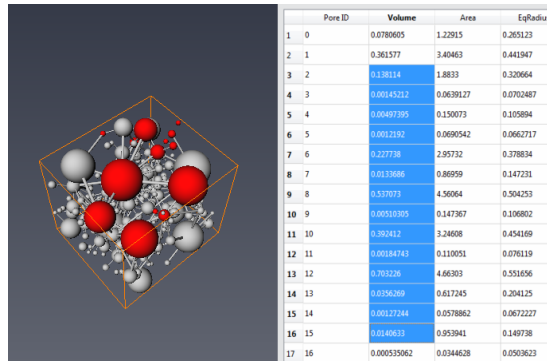

Figure 17.17: Highlighted Pores
4. When displaying the PNM with a *Pore Network Model View* and displaying the spreadsheet at the same time in the table view, it is possible to highlight the pores or the throats that are selected in the table from the Pores table or the Throats table. Select pores in the table by left-clicking on one or several lines (i.e., left click + hold on a line and move up or down the table without releasing). The corresponding pores will be highlighted in red in the 3D view (see Figure 17.17).